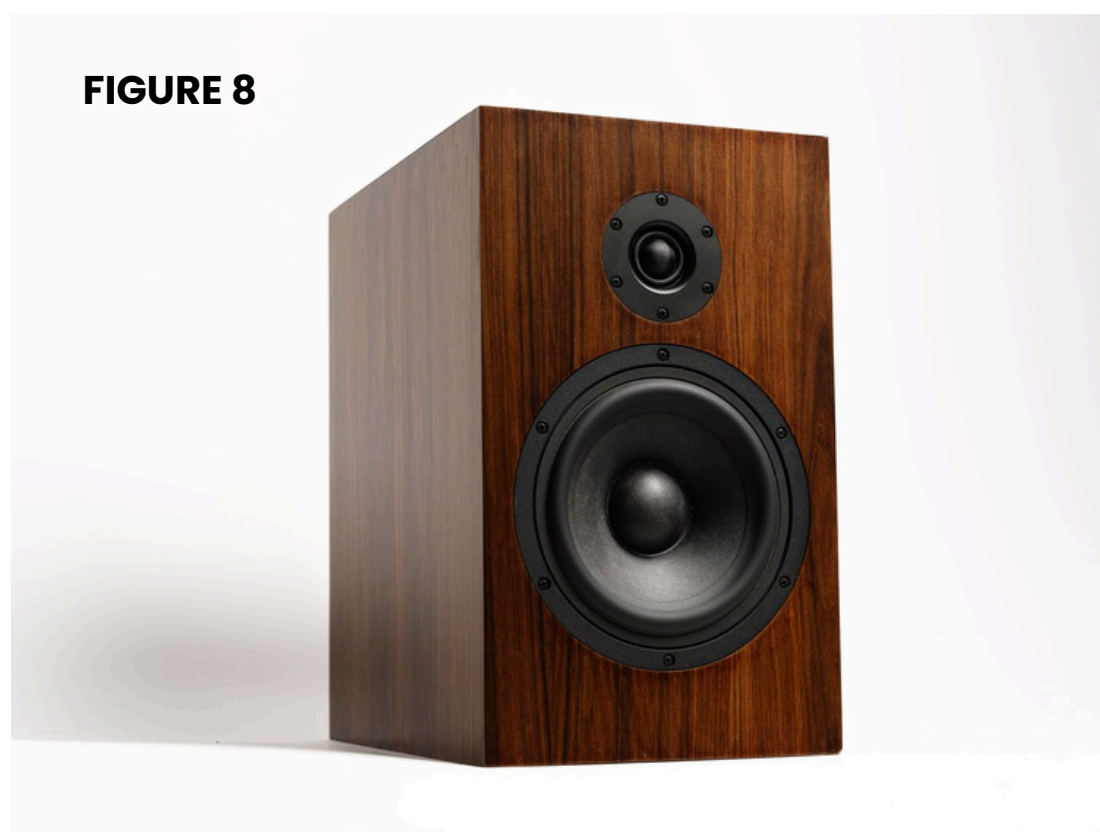

FIGURE 8
8. Finish as desired using veneer, vinyl, paint, etc. (see CSS blog post for ideas). (figure 8)